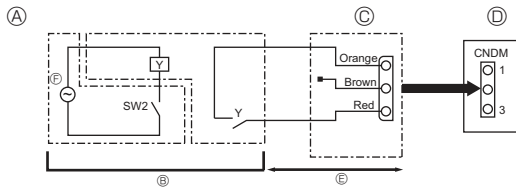

Fig. 10-2
10.2. Demand function (on-site modification) (Fig. 10-2) (Only for Air-Conditioners)